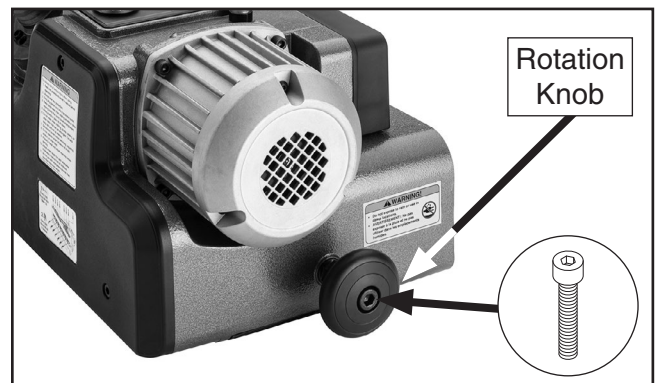

Figure 11. Rotation knob installed.
5. Attach rotation knob to power feeder (see **Figure 11**) using pre-installed cap screw, flange nut, and (2) flat washers.